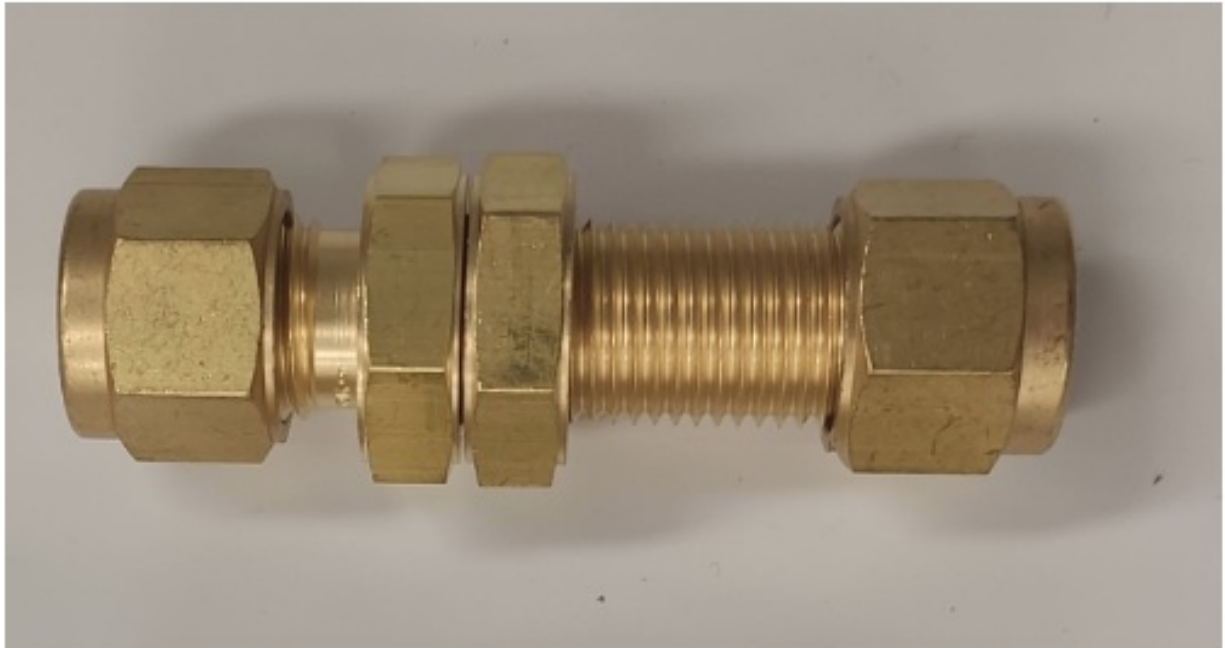

Figure 6
1. Connect the four chambers with the blue pipes using Swagelok unions shown in Figure 6. When you are tightening the union use keys number 16 and 18 and tight gently (Don't tight so much). Please Ask Ian Crotty, Ivan how much you can tight the union.